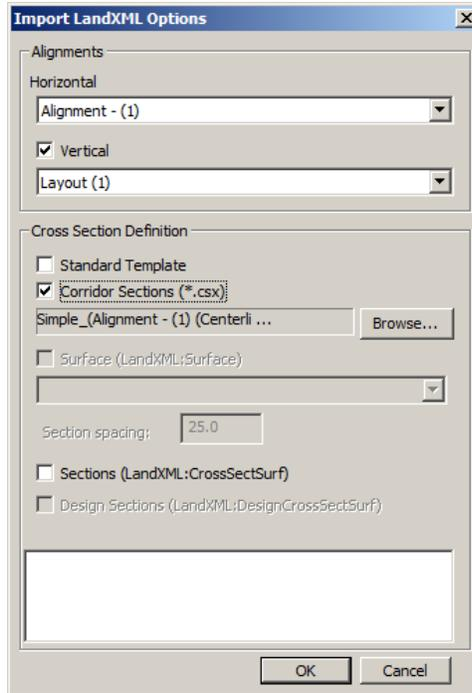

Figure 10: Initial Horizontal Alignment dialog
- Select the horizontal and vertical alignments (**Alignment-(1)** and **Layout(1)**) as shown in Figure 10 below.